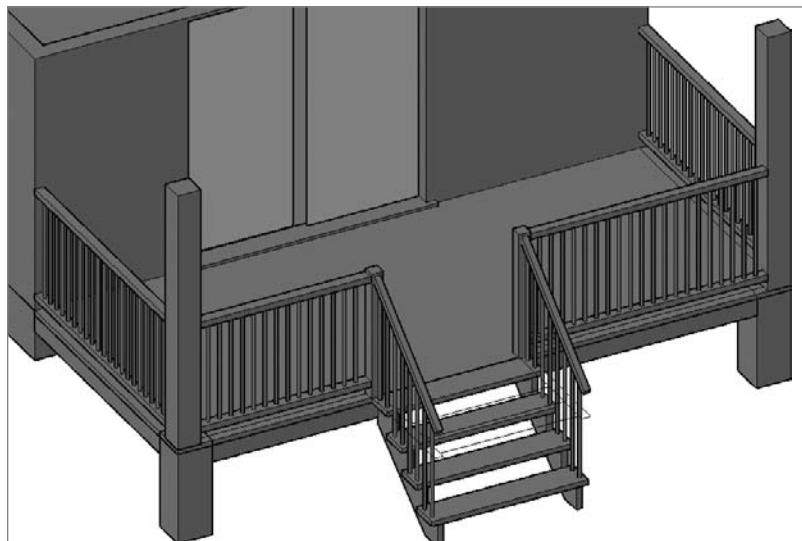

FIGURE 16.67 The completed front deck
5. Change the visual style back to Conceptual, and your completed deck should look like Figure 16.67.